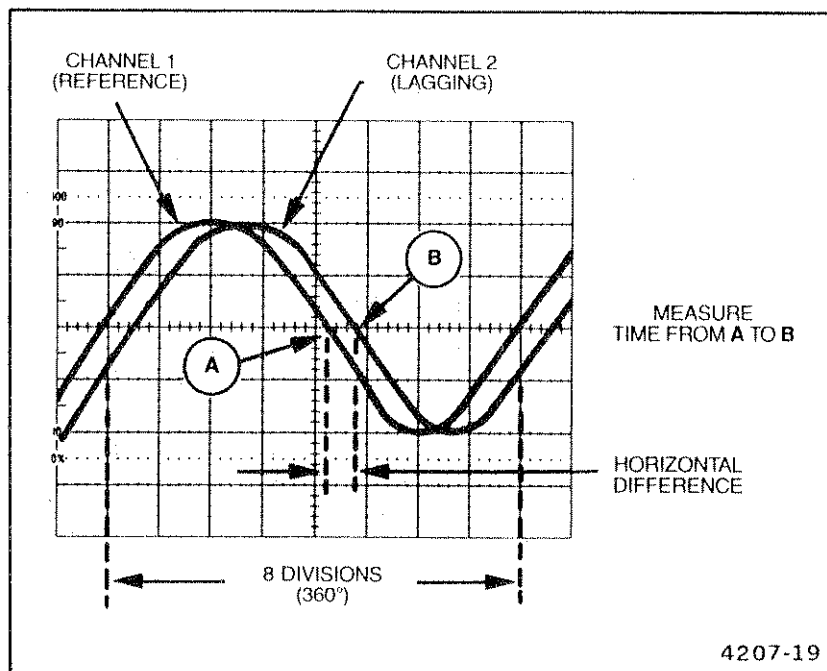
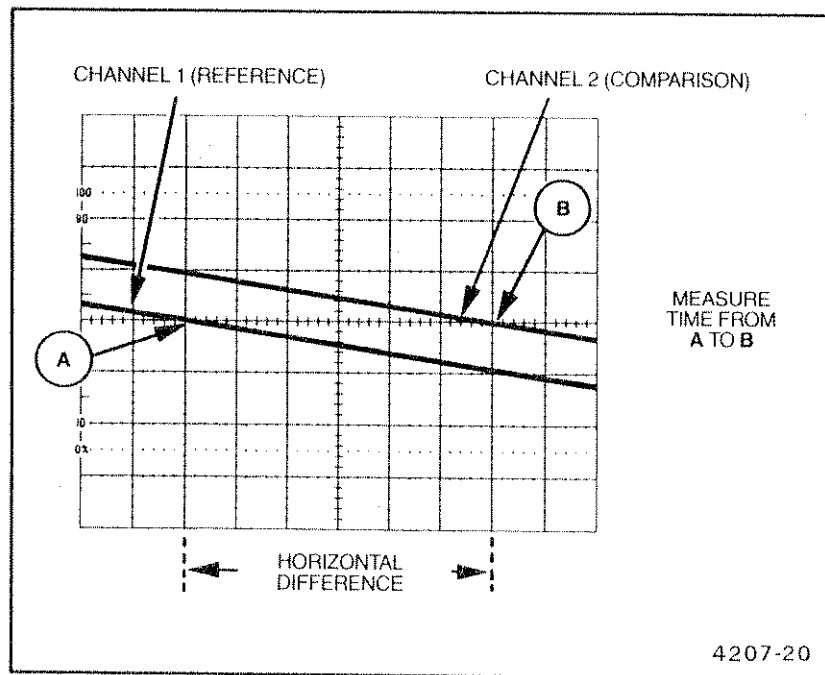

Figure 3-8. Phase difference.
Figure 3-9. High-resolution phase difference.
9. Position the displays and adjust the SEC/DIV variable (CAL) control so that one cycle of the reference signal occupies exactly eight horizontal graticule divisions at the 50% rise-time points (see Figure 3-8). Each horizontal division of the graticule now represents 45° of the cycle (360° divided by 8 divisions), and the horizontal graticule calibration can be stated as 45° per division.
EXAMPLE. In Figure 3-8, the horizontal difference is 0.6 division with a graticule calibration of 45° per division.
If the sweep speed were increased 10 times (MAG set to X10), the magnified horizontal graticule calibration then would be 4.5° per division (45°/division divided by 10). Figure 3-9 shows the same signals illustrated in Figure 3-8, but horizontally magnified by a factor of 10.
EXAMPLE. In Figure 3-9 the 10X magnified display results in a horizontal difference of six divisions between the two signals.